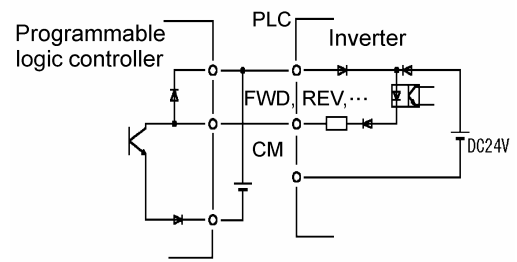

Figure 2-3-12
1) The digital input terminals such as FWD, REV, and X1-X9 are generally turned on/off between the CM terminal. If turned on/off using an external power source and open collector outputs from the programmable logic controller, the terminals may malfunction due to current leak from the external power source. In this case, connect the external power source using the PLC terminal as shown in Figure 2-3-12.
(3) Transistor output terminals (Y1-Y4 and CME)